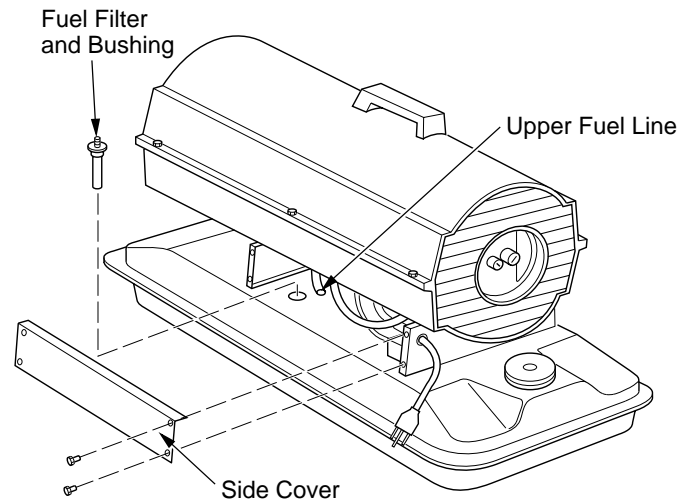
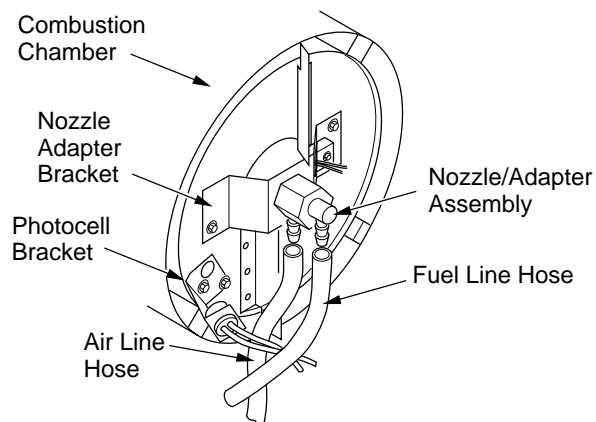
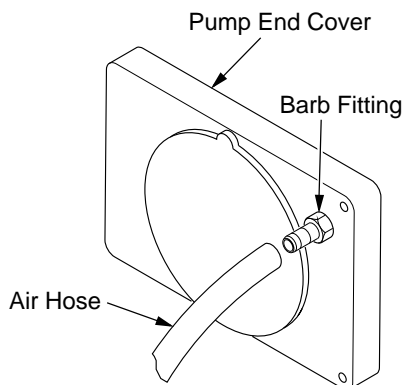

Figure 14 - Fuel Filter Removal, 70,000 Btu Units
Figure 18 - Removing Air and Fuel Line Hoses, 70,000 Btu Units
Figure 22 - Air Hose to Barb Fitting
3. Pull upper fuel line off fuel filter neck (see Figure 14 or 15).
4. Carefully pry bushing, fuel filter, and lower fuel line out of fuel tank (see Figure 14 or 15).
3. Remove 4 side cover screws with a 5/16" nut driver. Remove side cover (see Figures 14 or 15, page 9).
12. Replace side cover (see Figures 14 or 15, page 9).
14. Replace photocell in photocell bracket. Route wires as shown in either (see Figure 18 or 19, page 11).
3. Remove fuel and air line hoses from nozzle assembly (see Figure 18 or 19).
4. Inspect fuel and air line hoses for cracks and/or holes. If fuel line hose is damaged, disconnect from nozzle adapter (see Figure 18 or 19, page 11) and from fuel filter (see Figure 14 or 15, page 9). If air line hose is damaged, disconnect from nozzle adapter (see Figure 18 or 19, page 11) and from barb fitting on pump end cover (see Figure 22).
5. Install new air and/or fuel line. Attach one end of air line hose to barb fitting on pump end cover (see Figure 22) and the other end to nozzle adapter (see Figure 18 or 19, page 11). Attach one end of fuel line hose to fuel filter (see Figure 14 or 15, page 9) and the other end to nozzle adapter (see Figure 18 or 19, page 11). Route air and fuel line approximately as shown in either Figure 18 or 19, page 11.